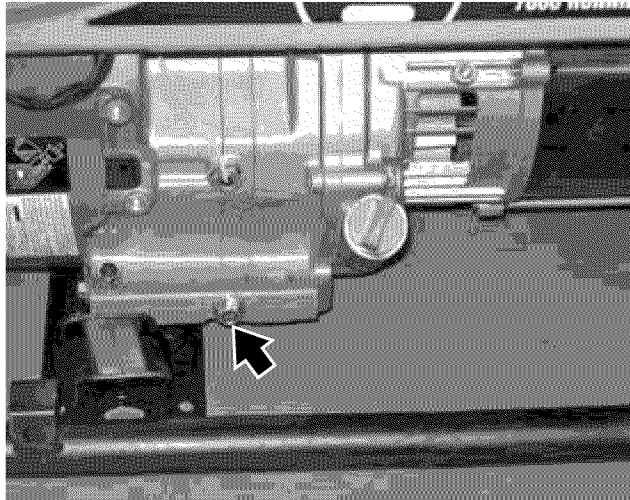

Figure 34 – Oil Drain Plug
5. Remove the oil drain plug (see *Figure 34*). Once removed, place the oil drain plug on a clean surface.